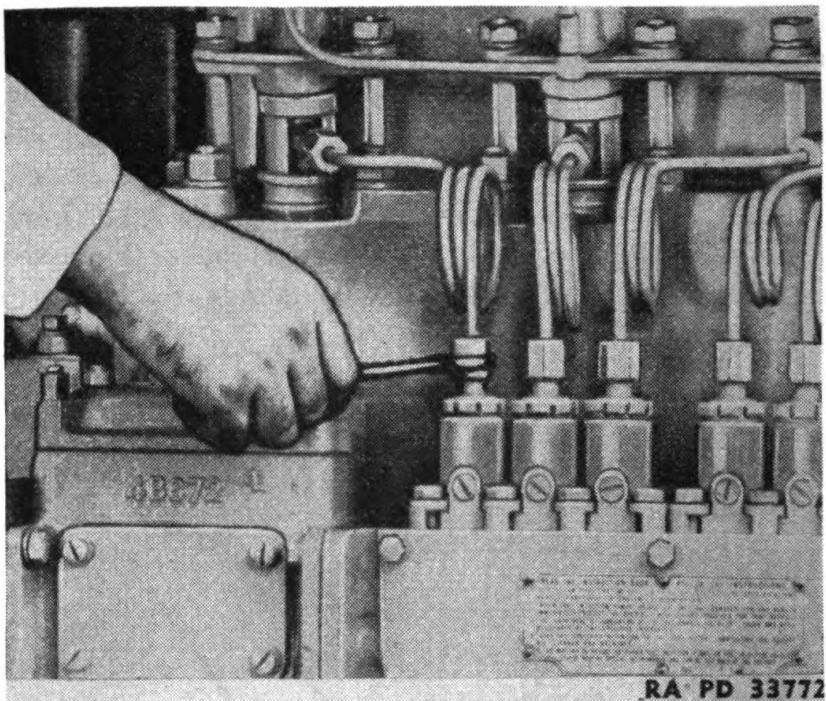

FIGURE 51.—Checking fuel injection equipment.
(1) With the engine running at a speed that makes the irregularity most pronounced, loosen fuel line nut (fig. 51) just above fuel pump sufficiently to "cut-out" the cylinder. Check each cylinder in the same manner. If one is found where loosening makes no difference in the operation of the engine, probably the valve and pump on that cylinder only need be tested.
(2) Irregular engine operation and smoking may be caused by a faulty injection valve. Hard starting and irregular operation may be the result of a weak pump not supplying sufficient fuel.